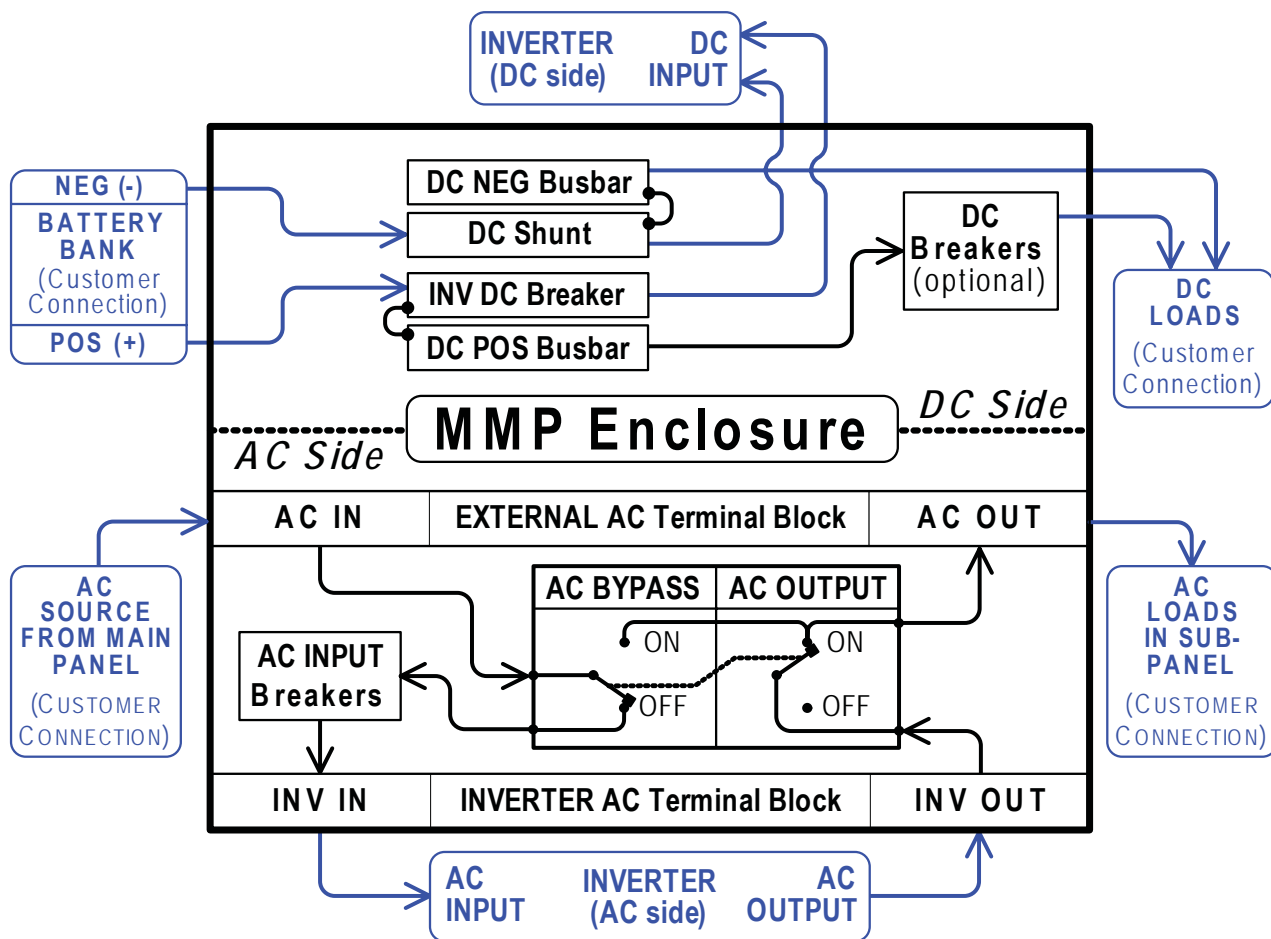

Figure 4-1, MMP Functional Diagram
The MMP enclosure provides you with circuit breakers/disconnects to easily operate and maintain your inverter/battery system. These breakers are used as the main power disconnecting means and/or overcurrent protection. Refer to Figure 4-1 (MMP Functional Diagram) to see the functional operation of the breakers within the MMP enclosure.
**Info:** Figure 4-1 is for descriptive purposes only, for specific wiring please refer to the relevant wiring diagram in the Installation section of this manual.